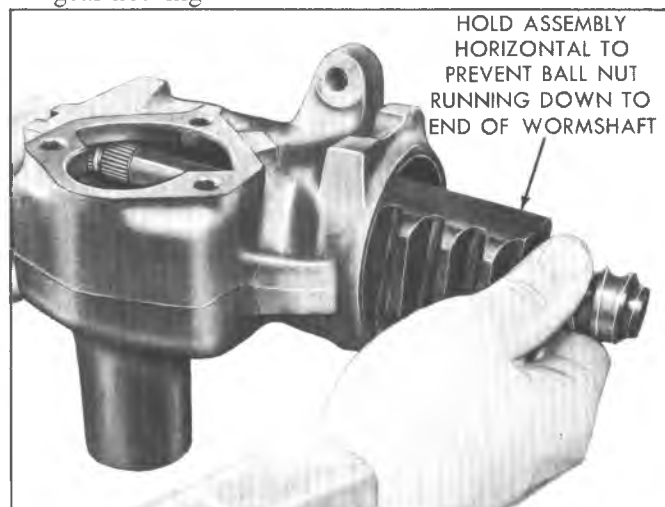

Fig. 6--Removing the Wormshaft and Ball Nut--Typical
6. Draw the wormshaft and ball nut assembly from the housing (fig. 6).